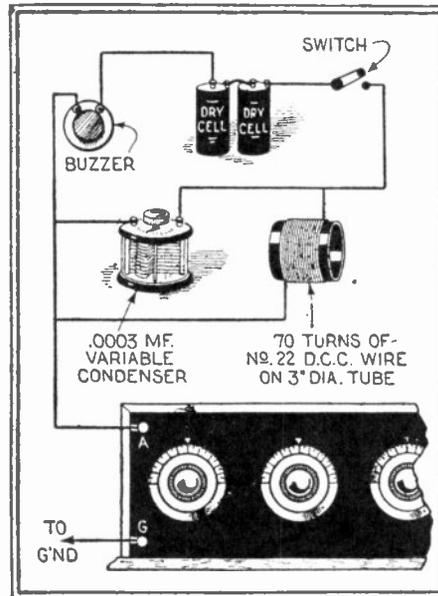

Fig. 254. Buzzer oscillator for use in adjusting neutrodyne.
A. 1. The buzzer oscillator often finds other uses than that for the purpose of aiding in neutralizing a set. It can be used very successfully as a wavemeter if carefully calibrated, and will afford many other uses. On a cardboard or bakelite tube, three inches in diameter and three and one-half inches long is wound 70 turns of No. 22 D.C.C. wire. Connected across this coil is a 15 plate variable condenser, having a capacity of .0003 mf. This arrangement will tune approximately from 200 to 600 meters. An ordinary dry cell buzzer is connected in the circuit in series with a key or switch and the buzzer-driven oscillator is then complete. As shown in Fig. 254, only one connection is run to the receiving set, and that is placed on the antenna post. If neutralization is desired on the shorter waves, the condenser is turned until its rotary plates are nearly all the way out and the usual method in neutralizing the set is followed. A good way to calibrate your oscillator is to place its coil near the first neutroformer of the set while listening in. Tune in a local station whose wave-length you are assured of. Then, by slowly moving the variable condenser of the oscillator until the station has completely faded out, note the reading on the dial on the oscillator. Then tune in another station on a different wave-length and again set the oscillator until the station has completely disappeared.